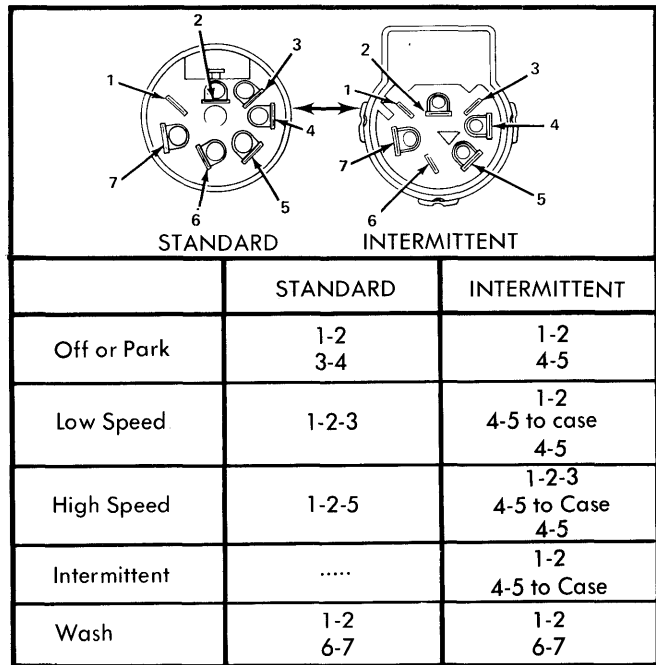

Fig. 1 Continuity Test Chart for Wiper Switches
1) Check continuity using a test lamp or ohmmeter. Continuity should exist between various switch positions as shown in chart (Fig. 1).